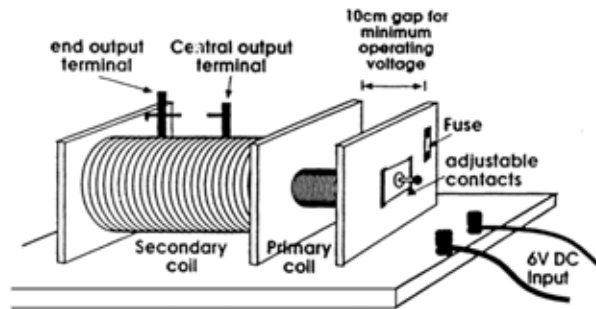

figure 1
- For the magnetic deflection and Maltese cross tubes connect the central output terminal on the induction coil (see figure 1) to the cathode plate electrode in the tube, and the end terminal of the induction coil to the nipple-shaped anode in the tube. If a green fluorescence is not clearly visible at the 'cross' end of the tube opposite the cathode then change the polarity of the connections.